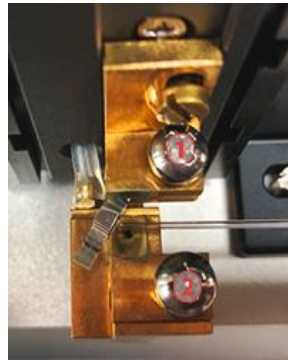

Figure 6-6
- 7) Install the new heating filament on the jaw to make the glass go through the center of the filament, and put in two screws①②. Be careful not to tighten the screws at this time, as shown in Figure 6-6.